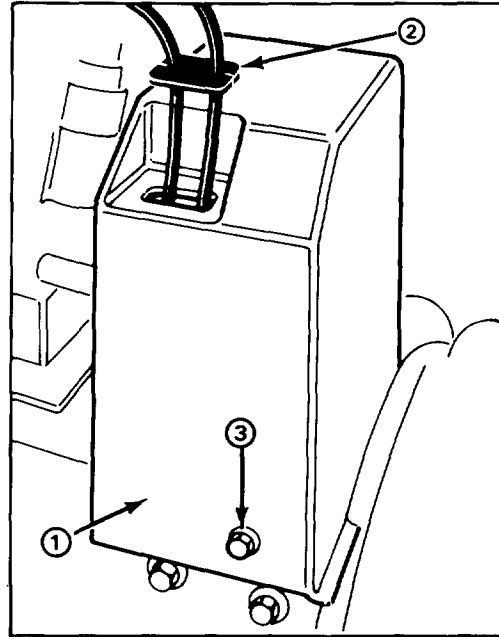

Figure 3
8. Mount upper belt cover to engine frame with (3) 1/4-20 x 1/2" lg. flange head capscrews (Fig. 3).
9. Slide cable cover onto cables and into hole in belt cover (Fig. 3).